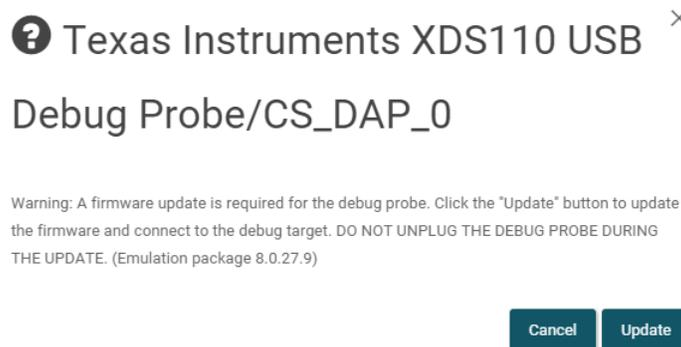

Figure 31. Debug Probe Update Required on First Flash of Launch Pad
14. If Uniflash determines an update is required, the following notification is displayed, as shown in Figure 31. Select 'Update' to allow the update to occur.